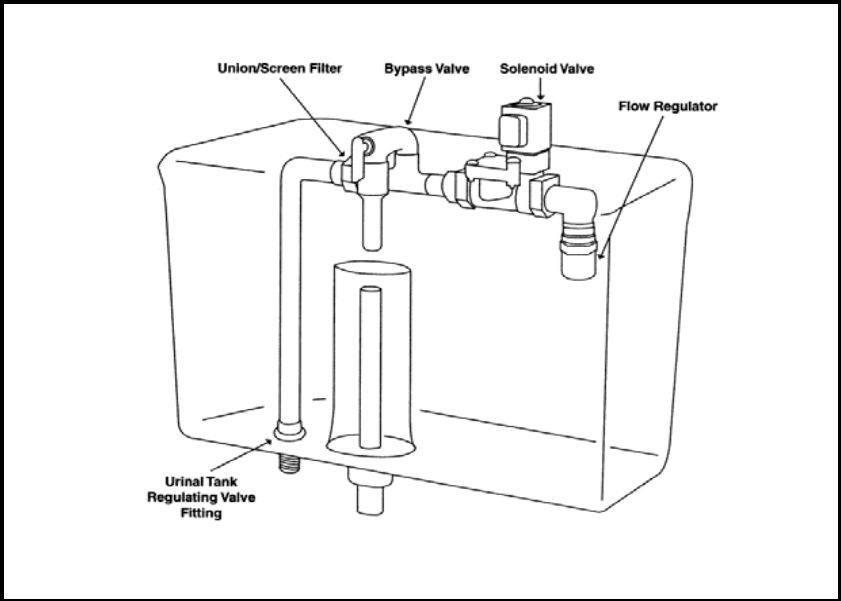

Figure 3: Urinal Tank Retrofit
See Figure 3.
1. Follow the instructions for Flush Valve Retrofitting above, skipping steps 2 and 3. See Figure 3.